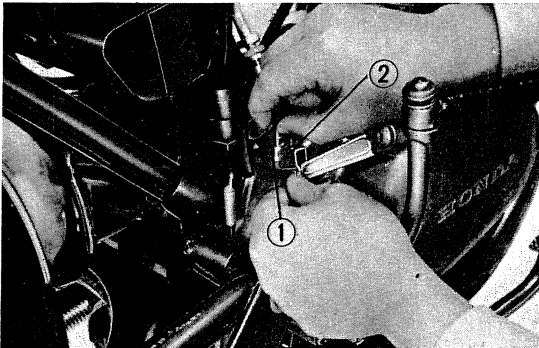

Fig. 28 ① Clutch cable ② Clutch lever
- 3) Loosen the clutch cable lock nut, provide additional cable slack and then disconnect from the clutch lever. (Fig. 28)